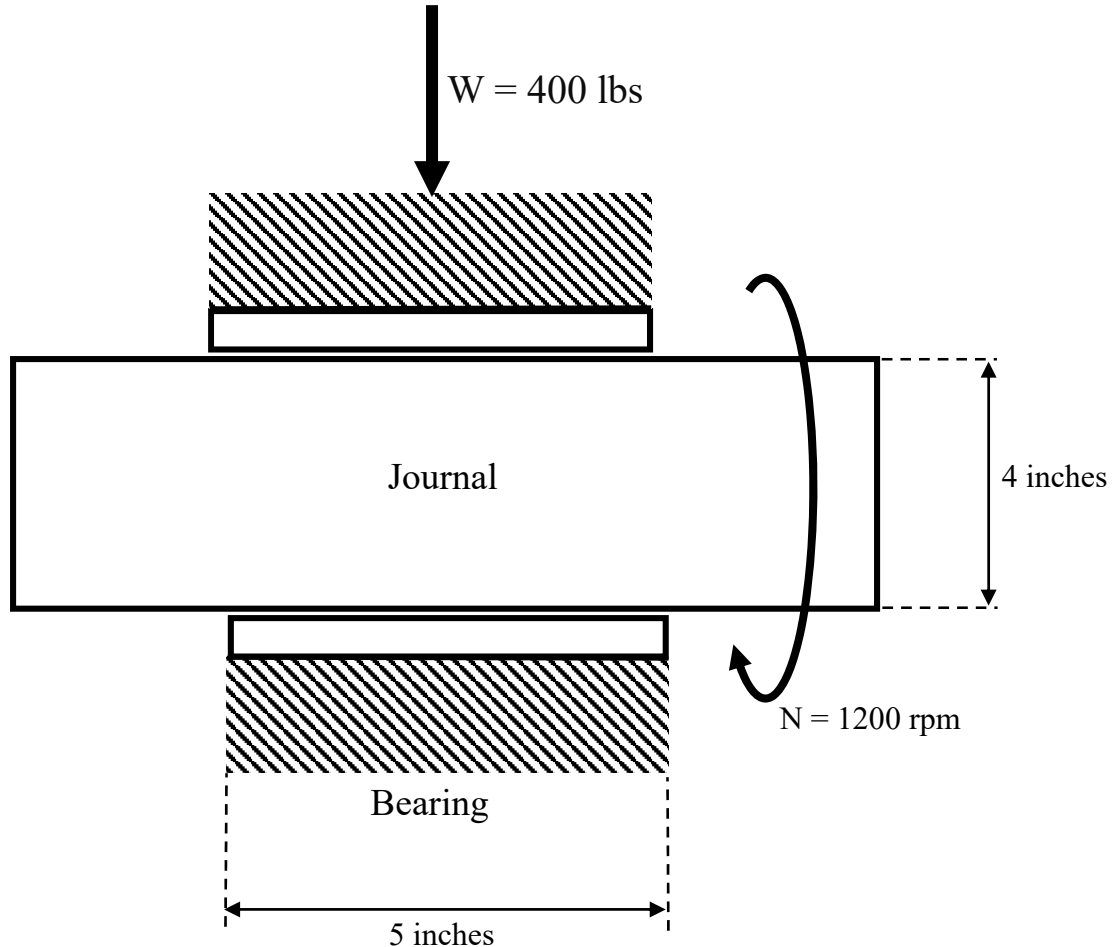

Figure 3. A full journal bearing. (Not drawn to scale).
**Problem 3 (25 points).** The full journal bearing shown in Figure 3 is required to support a steady state load of 400 lbs. The journal must rotate at a constant speed of 1200 rpm. The length of the bearing is 5 inches, the diameter of the journal is 4 inches, and the radial clearance is 0.02 inches. The common petroleum lubricant SAE grade 50 oil is to be used in the journal bearing and the operating temperature is 100°F. If the coefficient of friction variable is 7.7 and the flow variable is 3.6 then determine: